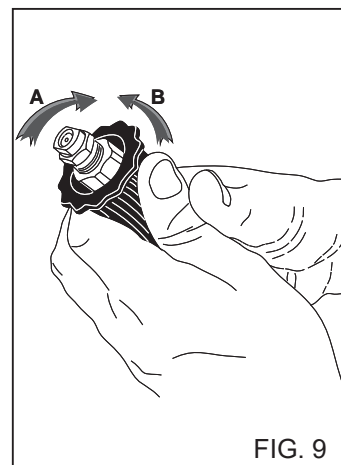

FIG. 9
#### USING THE ADJUSTABLE HEAD (Fig. 9)
- 2) Start the cleaner, activate the detergent suction control on the lance (fig. 9) and spray the surface to be washed, working from the bottom upwards.